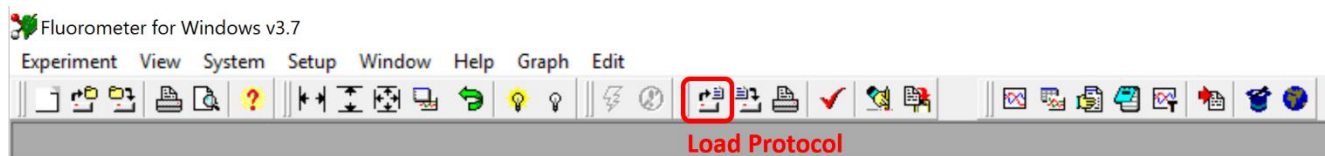

Fig. 7 Protocol loading.
2. Click on icon **Load Protocol** (Fig. 7).